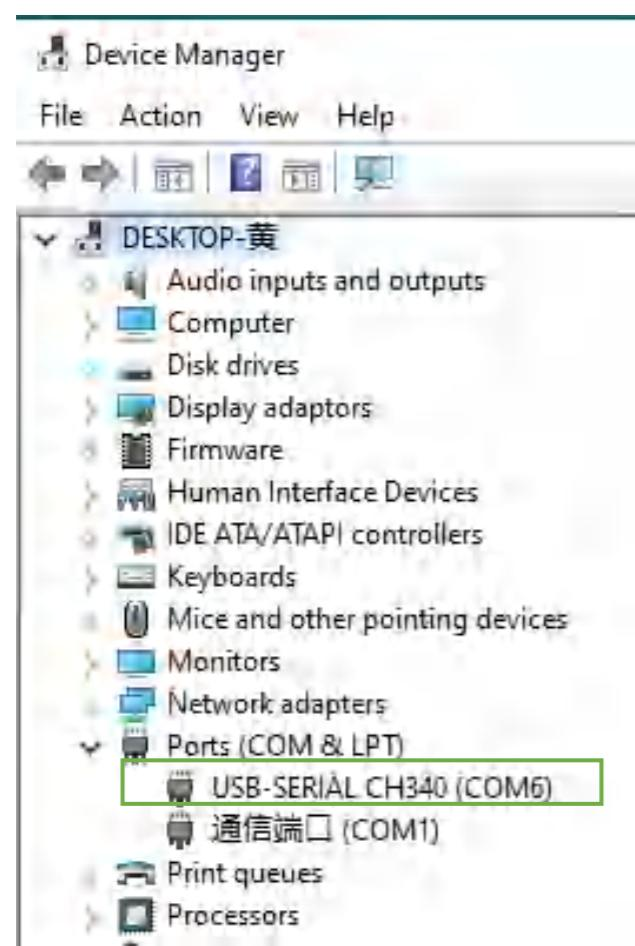

Figure 4.5
Step 5: Click the lightning connection sign. Note: When the lightning sign turns to red X and the direction sign litup means the connection is successful. (Figure 4.5)